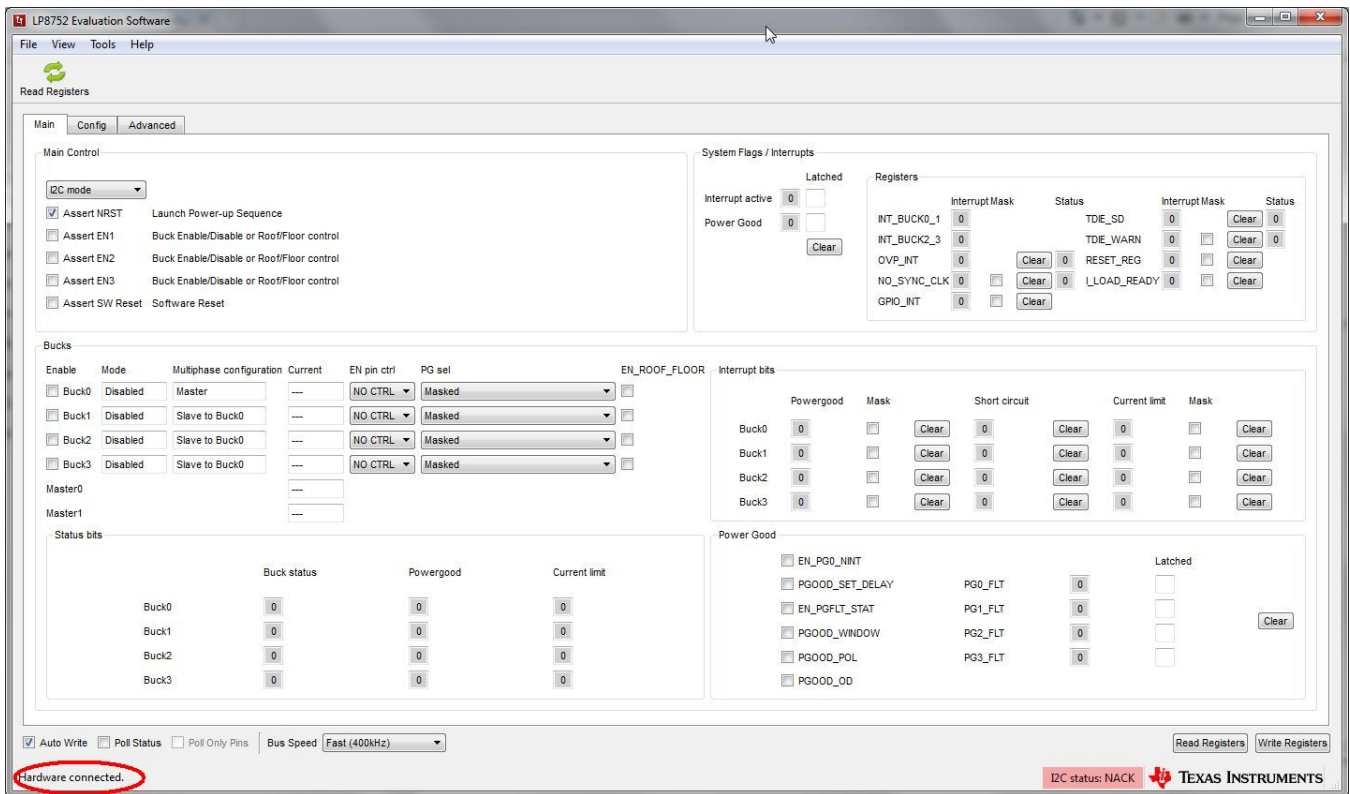

Figure 6. Evaluation Software Graphical User Interface (GUI) When Board Connected
2. On the Evaluation SW window bottom right corner you should see text "Hardware connected". Refer to Figure 6.